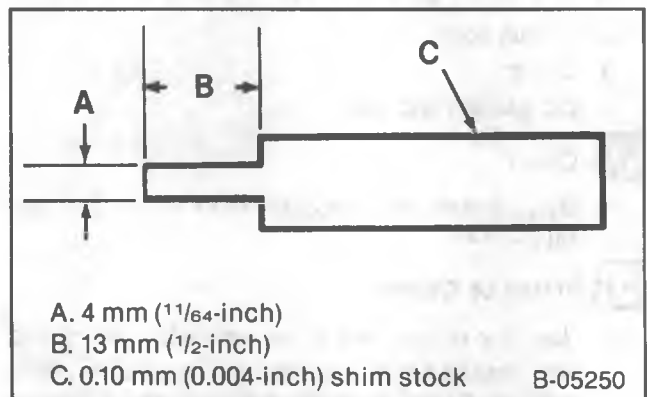

Figure 23 — Oil Seal Installation Tool
Both halves of the rear main bearing oil seal can be replaced without removal of the crankshaft. Always replace the upper and lower seal as a unit. Install the seal with the lip facing the front of the engine. Extreme care should be exercised when installing this seal to protect the sealing bead located in the channel on the outside diameter of the seal. An installation tool (figure 23) should be used to protect the seal bead when positioning the seal. Some seal kits include the tool as part of the service kit.
Install or Connect (Figures 23, 24, and 25)
- An oil seal installation tool (figure 23) should be fabricated (if not provided in the seal kit) to prevent seal damage during installation. Extreme care should be taken when installing this seal to protect the sealing bead located in the channel on the outside diameter of the seal.
- Position the tip of the tool (figure 23) between the crankshaft and the seal seat in the block (figure 24).